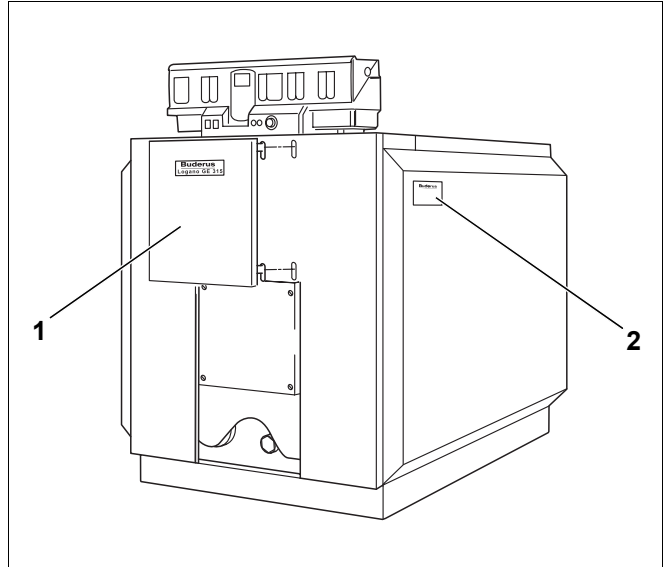

Fig. 42 Hooking on the burner door cover
- Hook the burner door cover into the front wall recesses (Fig. 42, **Item 1**).
- Place the data plate (Fig. 42, **Item 2**) according to boiler location on the r.h. or l.h. side wall.